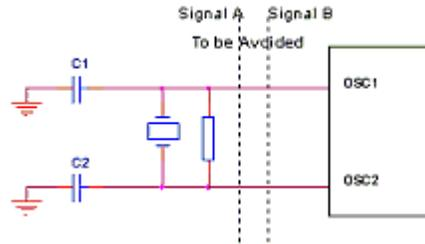

Figure 8.2 Signal Lines
- Avoid running signal lines close to the oscillator circuit, since the oscillator may be adversely affected by induction current. [See Figure 8.2]